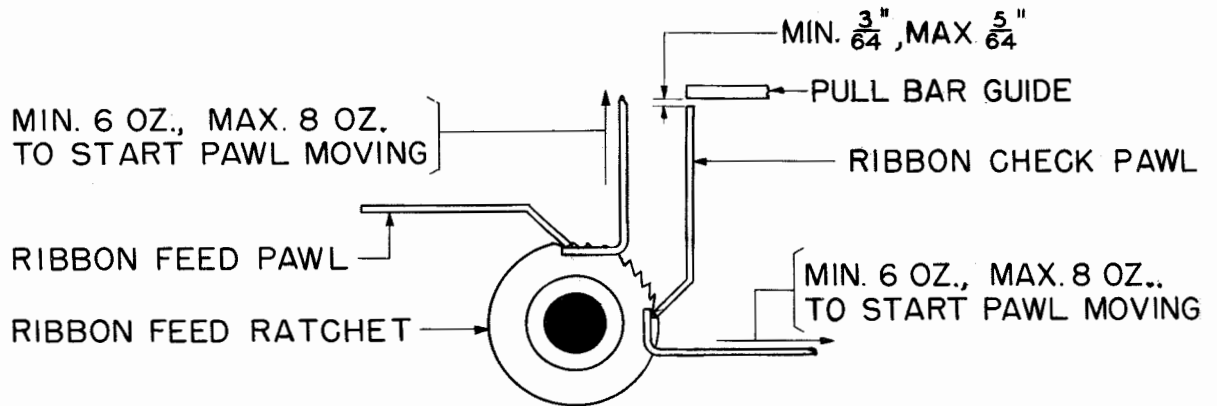

Figure 22
2.33 Ribbon-check Pawl (top end) shall clear the lower surface of the pullbar guide as indicated in Figure 22. Gauge by eye.
2.34 Ribbon-check-pawl Spring: It shall require a pull as indicated in Figure 22 to just pull the check pawl away from the ribbon-feed ratchet when the ratchet is positioned so that its tooth does not prevent free movement of the pawl.
2.35 Ribbon-feed Pawl shall be positioned so that the ribbon-feed ratchet will be moved one or two teeth for each revolution of the main shaft. See Figure 22.
2.36 Ribbon-feed-pawl Spring: With the ribbon-feed shaft pushed to the right and the main shaft in its stop position, it shall require a pull as indicated in Figure 22 to just pull the ribbon-feed pawl away from the ribbon-feed ratchet.